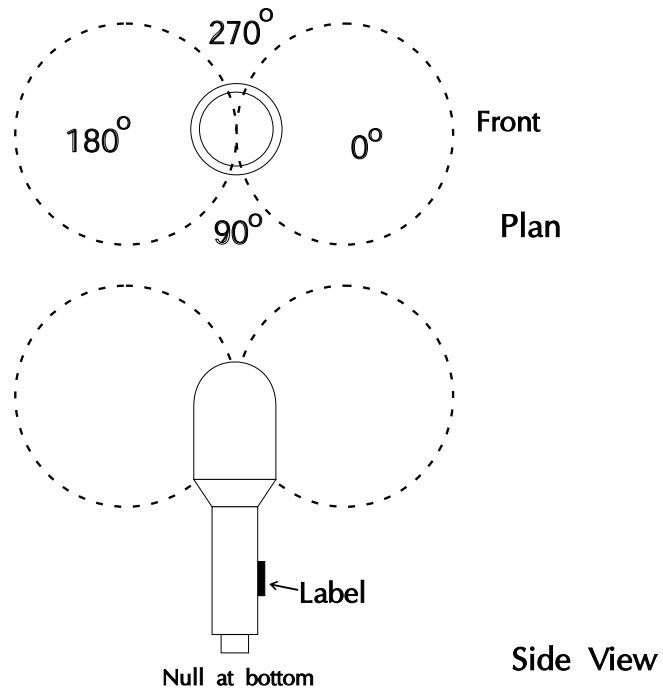

Figure 1: Figure of Eight: Angle, Azimuth, Elevation: 0°
- Test 1** To speech check, start at the front of the microphone at about 150mm (6 inches) range and progress clockwise around horizontally, noting the signal peaks at 0° and 180° and the nulls at 90° and 270°. Similar nulls should also be found immediately over the top and underneath the microphone (see Figure 1 - Page 12)
- Test 5** Return the controls to forward facing, as in Test 1 and select 45° clockwise on the *azimuth* control. The peaks and nulls will now have moved 45° to the right of microphone front (ie halfway between Figures 1 and 2).
- Test 6** Repeat Test 5 with the *azimuth* control selected to 45° anticlockwise. The peaks and nulls will now be 45° to the left of microphone front. (Again, halfway between figures 1 and 2 but at 90° to Test 5).